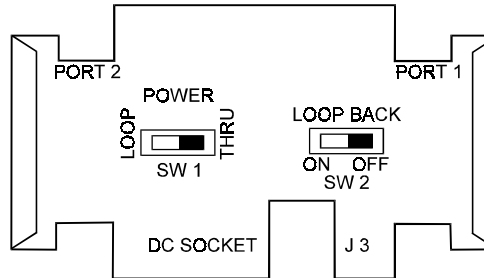

Figure 2. Strapping Diagram
2. Set the power switch (**SW1**) (refer to Figure 2). If RPT is located as the last unit in the link with TELCO line power, set SW1 to LOOP position. In all other cases of TELCO line power, set SW1 to THRU.